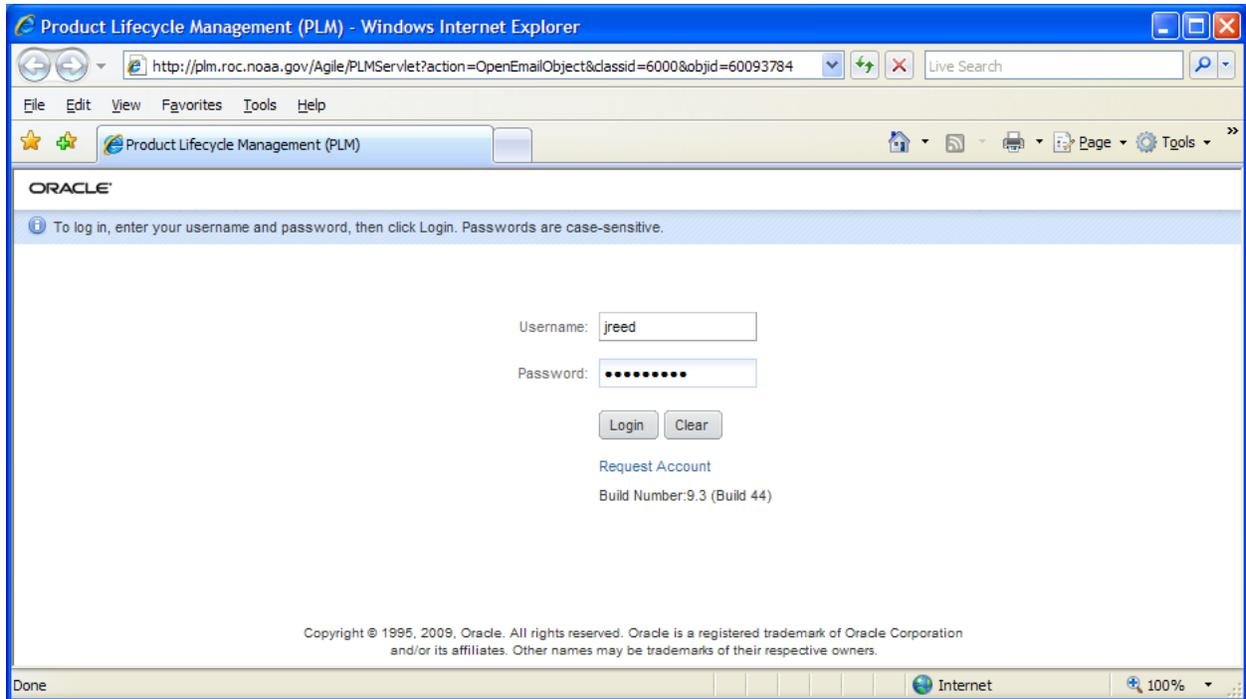

Figure 31: Product Lifecycle Management login screen.
- d. The **Product Lifecycle Management (PLM)** login screen will be displayed (Figure 31). Complete the **Username** and **Password** information and click **Login**.